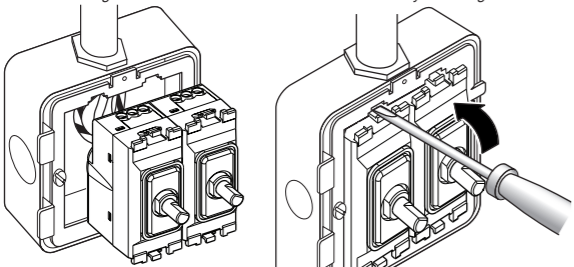

Figure 4 - Typical mounting arrangement
- *20. Carefully push the wired unit back into the Grid mounting frame, until the latches have fully engaged and the module is secure (as shown in Fig. 4). Ensure cables are not trapped or pinched.